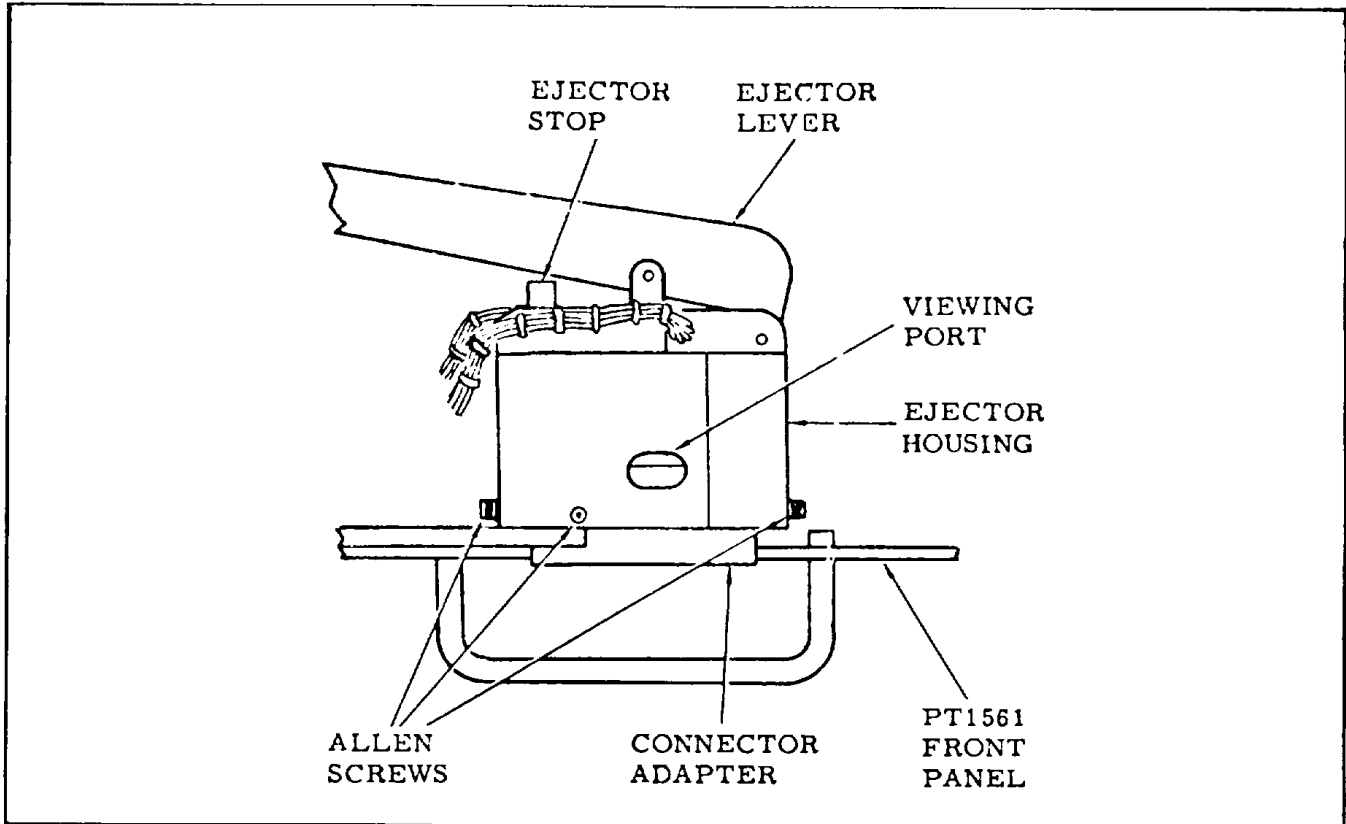

Figure 5-1. Replacing Connector Adapter
**5-80.** Using appropriate size alien wrench, loosen 4 alien screws (top, bottom, and sides) which secure connector adapter in ejector housing (figure 5-1).
**5-81.** Rotate ejector stop (figure 5-1) so that stop (figure 5-1) as that stop points straight up.
**5-84.** Install replacement connector adapter in connector built into ejector housing and check through viewing port (figure 5-1) that connectors are fully mated.